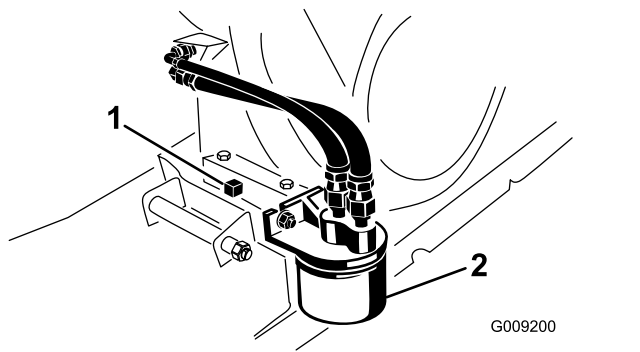

Figure 33
6. Place a drain pan under the drain plug (Figure 33).
7. Remove the drain plug and seal (Figure 33).
2. Remove the existing oil filter (Figure 33).
4. Thread the new filter onto the filter adapter until the gasket contacts the mounting plate, then tighten the filter an additional 1/2 to 3/4 turn (Figure 33).